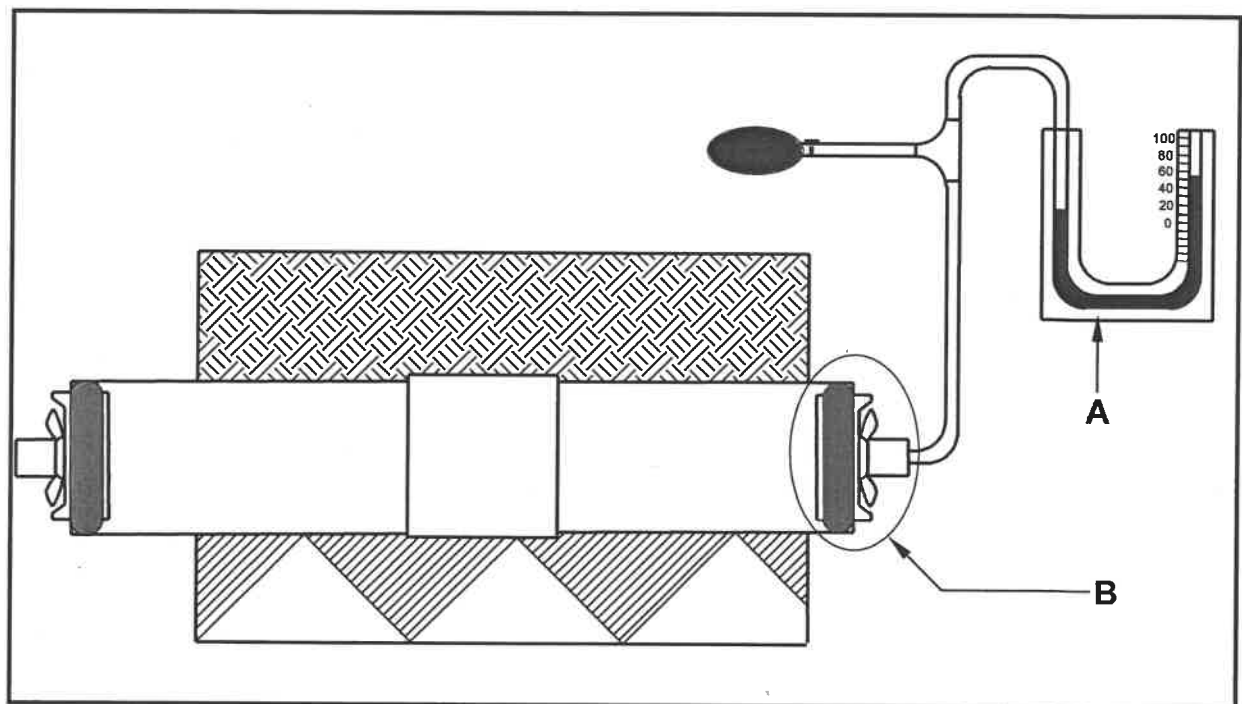

FIGURE 6.4
- 6.4 FIGURE 6.4 below shows the diagram of a test being conducted on a sewer pipeline.